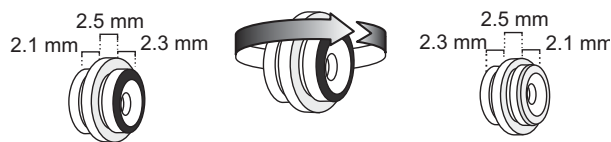

Figure 19. Reversing the Mounting Button
4. Unscrew and remove the mounting button. Turn it around 180°. Secure the mounting button to the ePDU (see Figure 19).